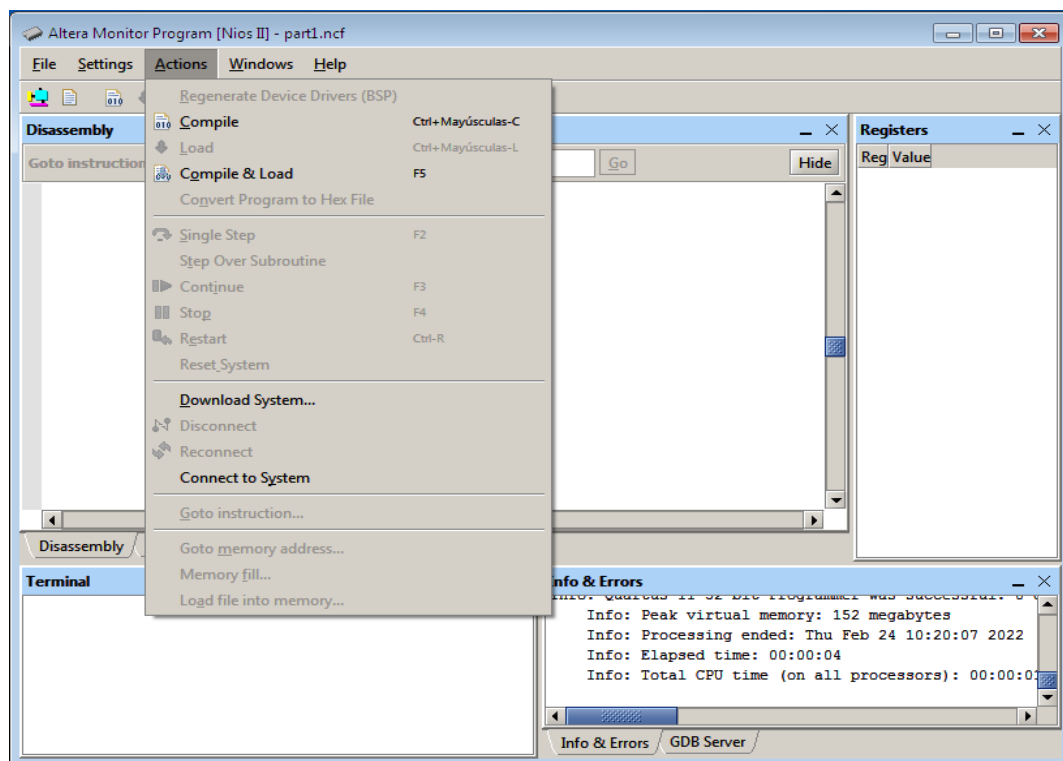

Figure 9: Specify an action in the monitor window.
9. Having downloaded the DE0-Nano Basic Computer into the FPGA chip on the DE0-Nano board, we can now load and run programs on this computer. In the main monitor window, shown in Figure 9, select Actions > Compile & Load to load the selected sample program into the FPGA chip. Figure 10 shows the monitor window after the sample program has been loaded.